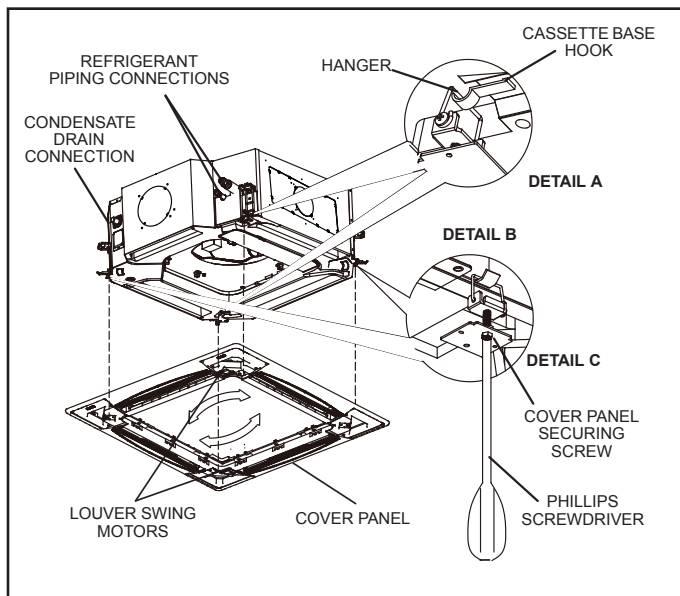

Figure 23. Install Cover Panel
5. Locate the cover panel hangers on the two corners with the louver swing motors. Place these two hangers on the corresponding hooks on the corners of the cassette base. See detail A in Figure 23. Then, place the other hangers from the other two corners over their corresponding hooks on the cassette base as shown in detail B in Figure 23.
9. Tighten the provided screws in the bracket in the cover panel immediately below each panel hanger. See detail C in Figure 23. Adjust the cover panel by turning slightly clockwise, if necessary, to make sure that the panel is properly aligned with the cassette base.